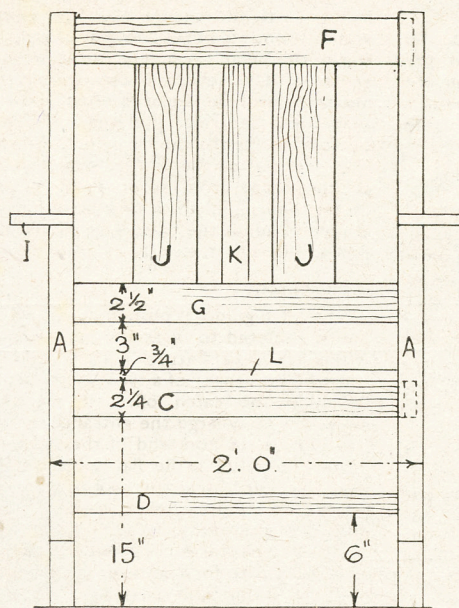
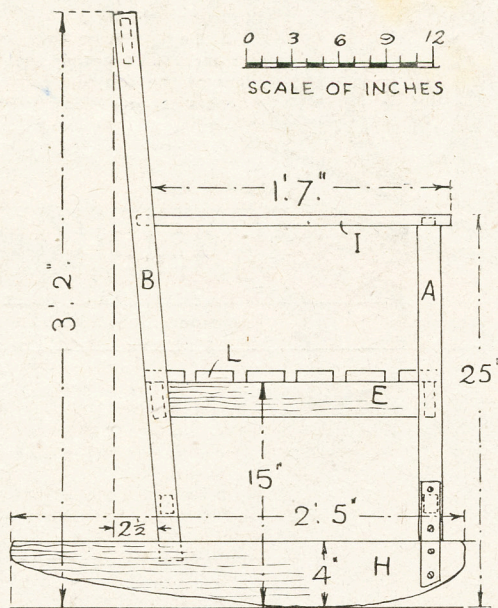

Fig. 1—Front view showing rails and back struts
Fig. 2—Side view with shape of rocker parts
In Fig. 1 we have a front view of the chair giving the various heights and spacings of the rails, etc. The side view (Fig. 2) is very helpful, as it gives all the necessary sizes from which to work when setting out the sloping back of the chair and the rockers.
In the side view of the chair (Fig. 2) is seen how the upright and rocker can be strengthened, indeed this is rather important, for the sake of firmness when rocking. A stout metal plate about 6ins. long is drilled in four places and screwed with countersunk screws as shown. The back legs (B) run at an angle with the top edge of the rocker
The rockers are made to the dimensions given in Fig. 2, the curve being gently tapered towards the back
the uprights. Included in Fig. 2 is a scale of inches—very useful as a means of finding certain sizes or measurements which it has been impossible to show clearly on the diagrams.